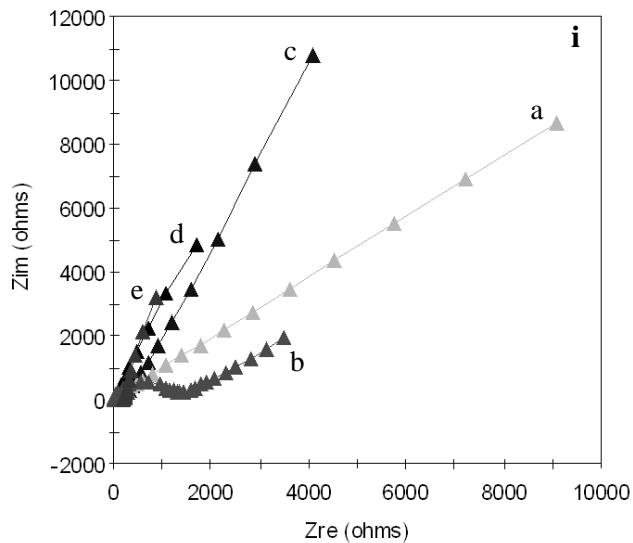
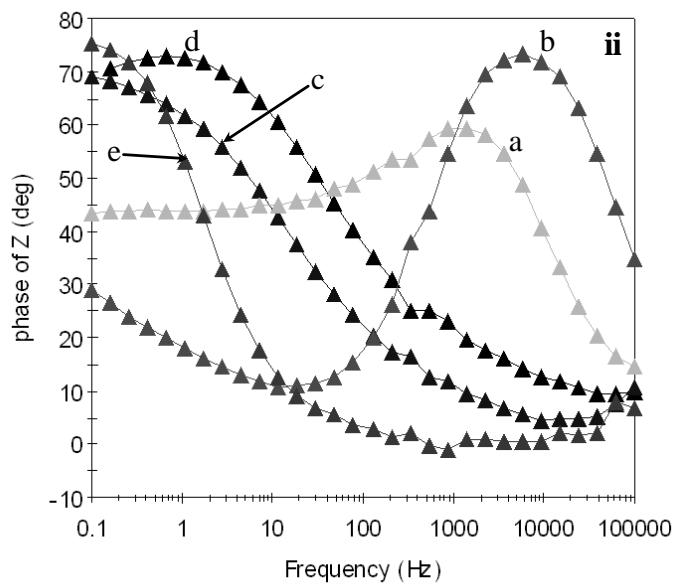
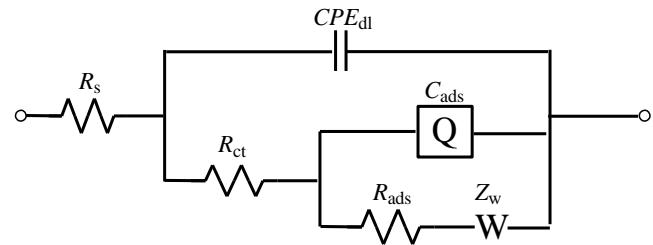

Fig. 3
Fig. 4
Fig. 5
- (c) Briefly discuss the Nyquist plot (Fig. 3), Bode plot (Fig. 4) and the Randles' circuit (Fig. 5) obtained from the analysis of heparin from a plant *A.sessiliflorus* in 20% 0.1M citric-NaOH (pH = 3.7) and in methanol with scan rate is 100 mVs⁻¹. (Please see Appendix 1 for information).